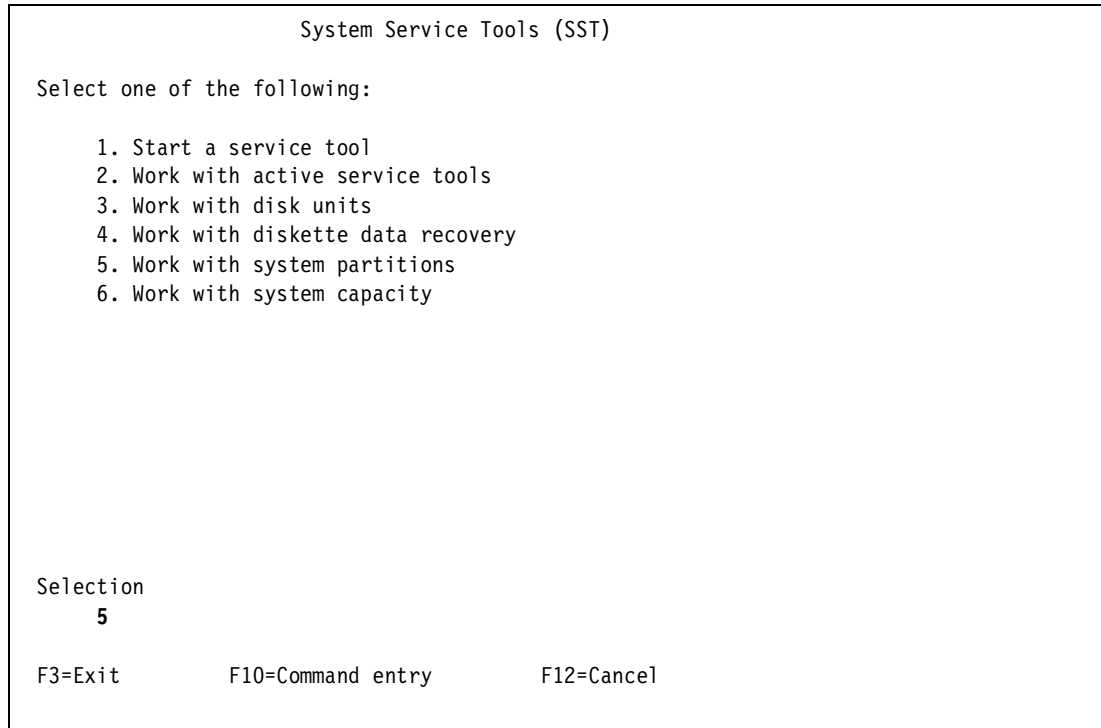

Figure 10-5 System Service Tools menu: Selecting option 5
4. Select option 5 to work with partitions as shown in Figure 10-5.